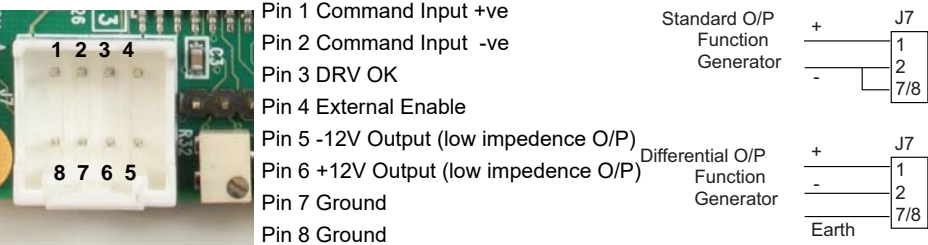

Fig. 3.16 J7 Command Input Connector Pin Identification
- 4) Connect a command input (e.g. function generator) to J7 of each driver board as shown in Fig. 3.16. J7 accepts Molex pins Pt No 56134-9100.